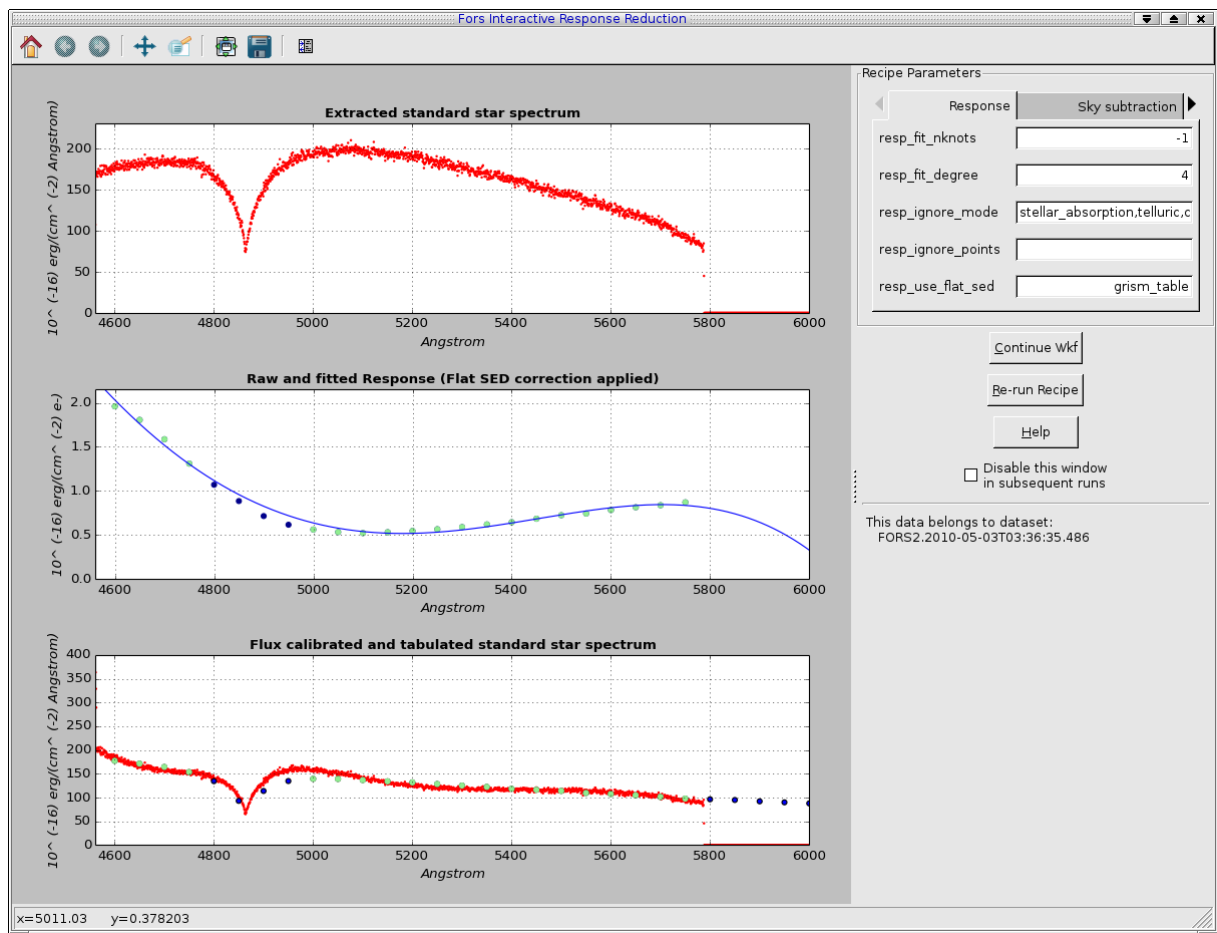
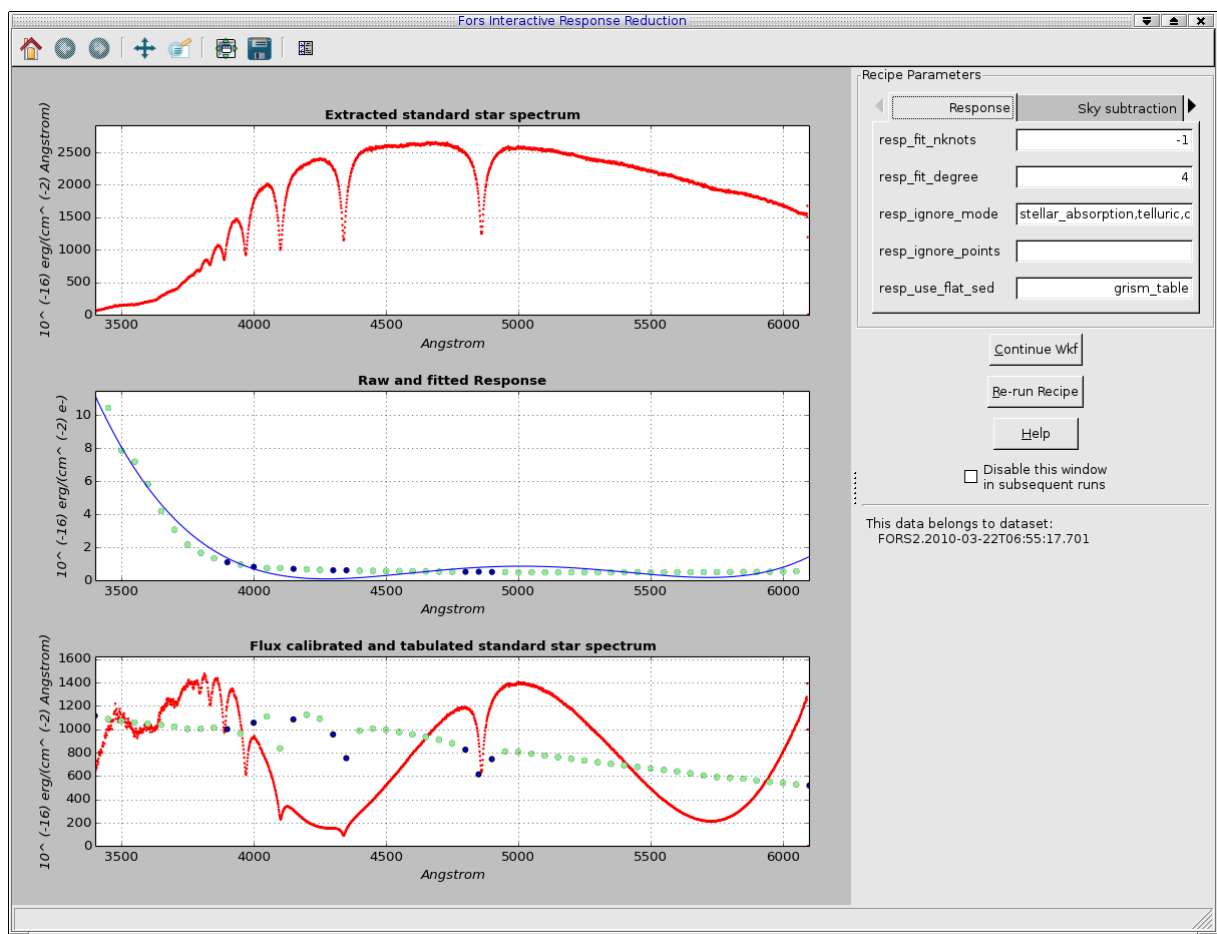

Figure 7.1: The interactive window of the `fors_science` actor for the response of the 4th demo DataSet with default parameters.
Figure 7.3: The interactive window of the `fors_science` actor for the response of the third demo DataSet with default parameters.
**Raw and fitted response** The blue curve (fit) in the central plot should follow the green dots (raw response) closely. If some green dots deviate the user may try to set the parameter `-resp_ignore_mode` to `stellar_absorption` and/or `telluric` in addition to `command_line`. Alternatively one may change the fit to a spline (see Figs. 7.3 and 7.4) or change the polynomial degree (see Figs. 7.1 and 7.2).